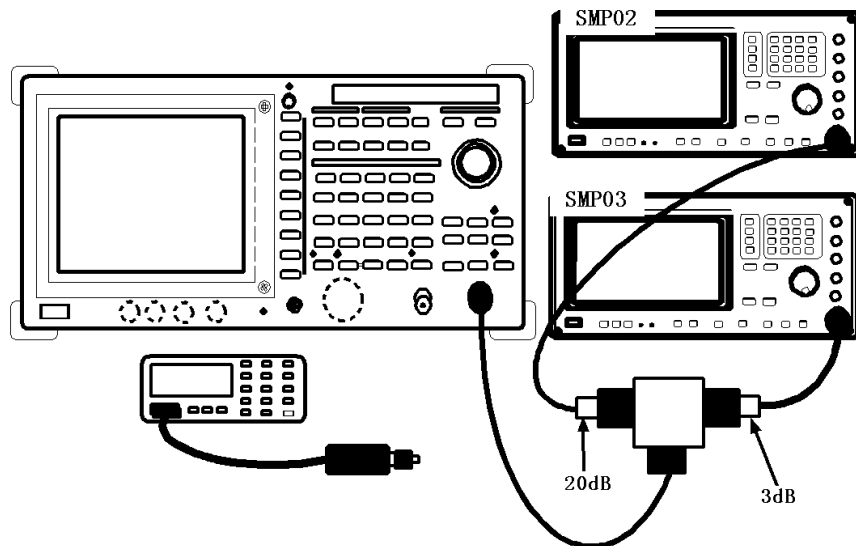

Figure 1-11 Setup for the Gain Compression
3. Connect the signal generators and the power sensor as shown in Figure 1-11.